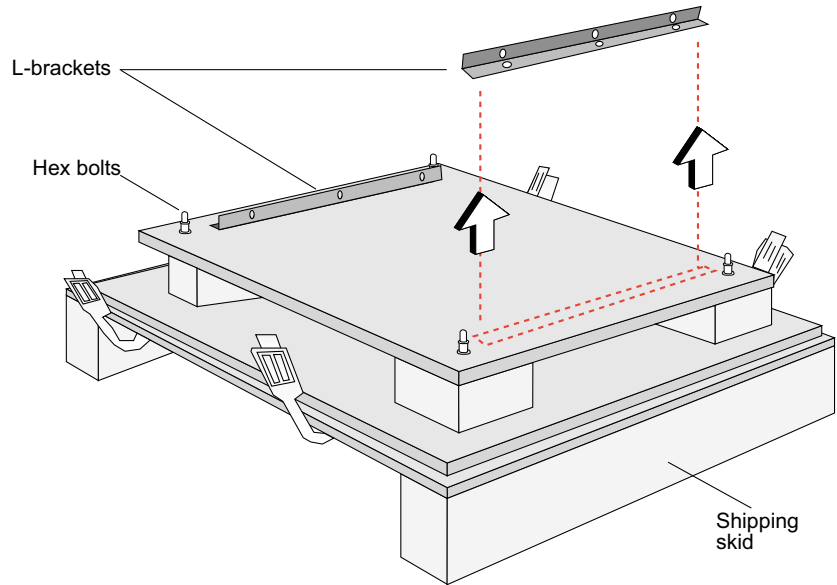

Figure 2-3 Removing an L-bracket
- 7 To move the router more easily from the skid, unscrew one of the L-brackets from the skid by removing the three screws that attach it to the skid. See Figure 2-3.